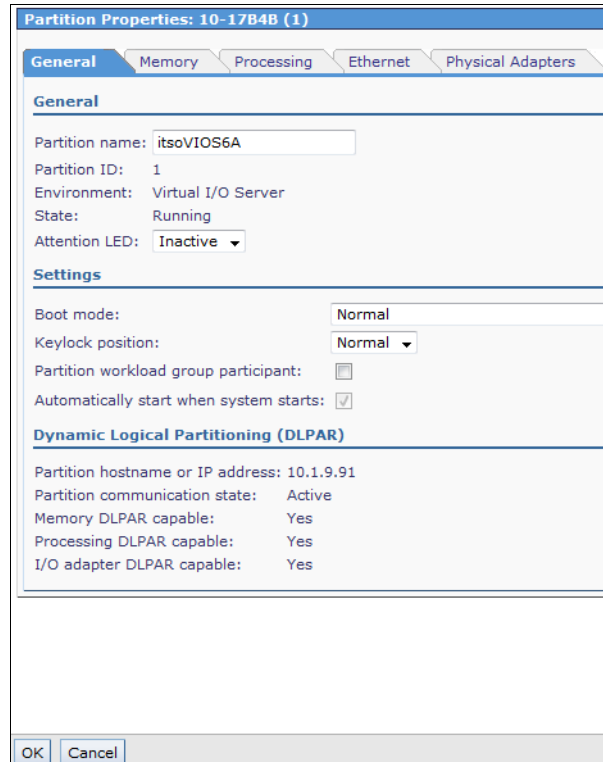

Figure 8-57 IVM Partition Properties General tab
- Click the default name to open the partition properties window, as shown in Figure 8-57. This window includes selectable tabs that are used to modify the management or VIOS partition properties.